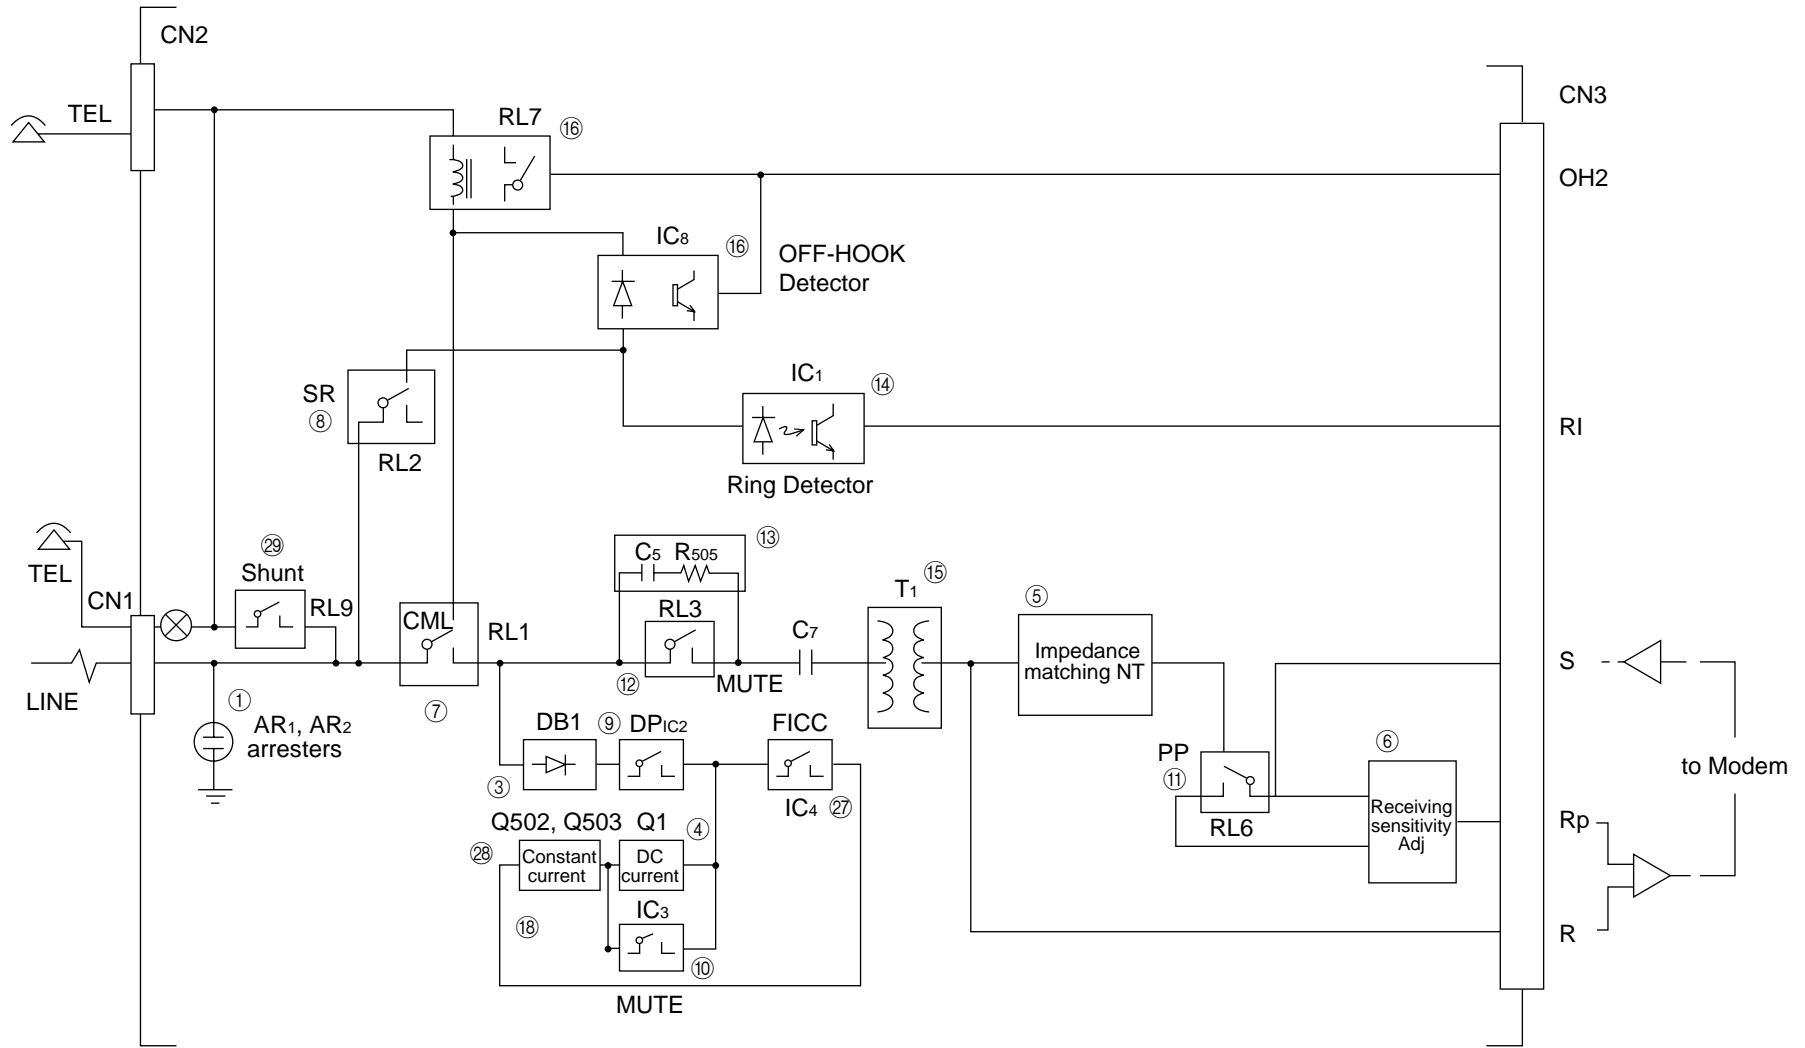

Figure 3.20 Block Diagram of EN2
- Figure 3.20 shows a block diagram of EN2 circuit.